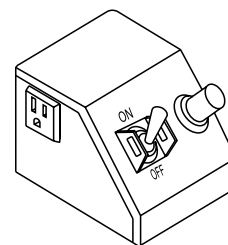

Figure 15. Power ON/OFF Switch (ON)
2. Turn the power ON/OFF switch (Figure 15) to the ON position with the blade away from the material to be cut, the cutting blade should begin to rotate. Before cutting remember to follow all safety rules referenced in this manual.